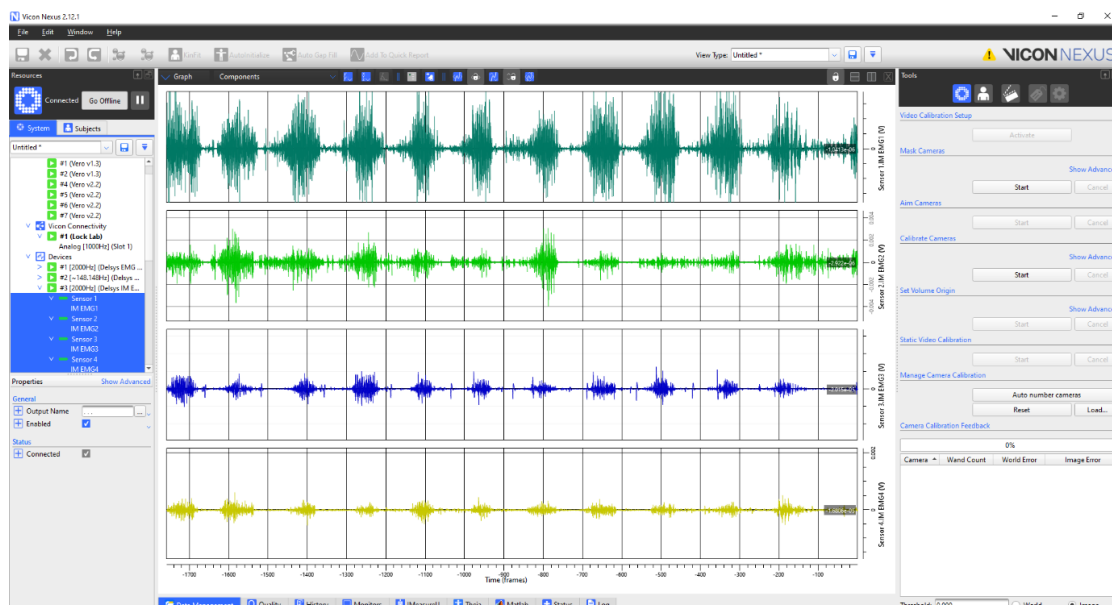

Figure 11: Delsys EMG data streaming directly into Vicon Nexus.
8. When data capture is initiated in Vicon Nexus, a 5V pulse will be sent to the Delsys system via the Trigger Module to initiate recording and ensure that data streaming from the Delsys system is synchronised with the motion capture data (Figure 11).